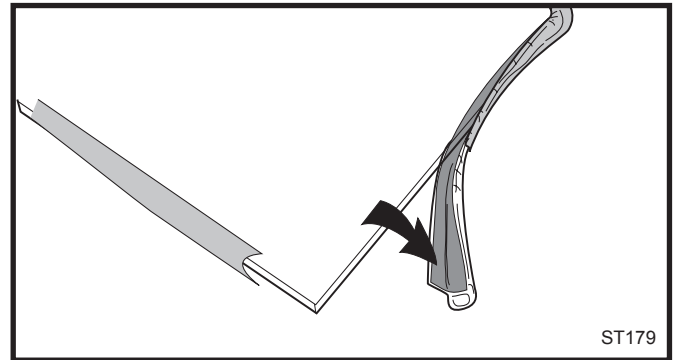

Fig. 78 Wrap the gasket material around the outside edge of the glass.
3. Starting on a long edge, remove about 6" of the protective paper strip and apply the flat adhesive face of the gasket around the outside-facing edge of the panel. Continue around the panel, applying about 6" at a time and being careful to not stretch the material. Do not overlap the gasket ends. (Fig. 78)